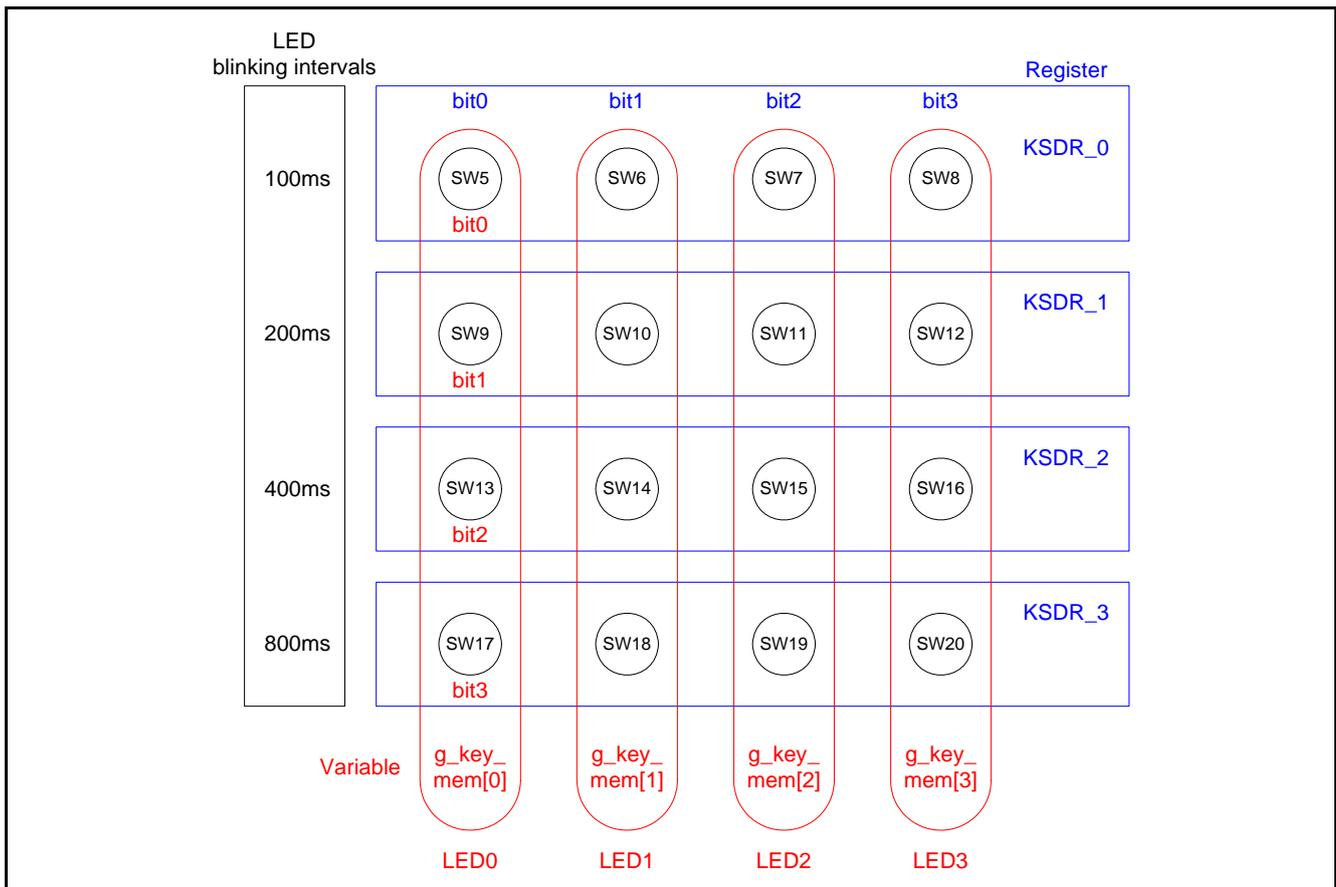

Figure 6.1 Relationship between Key Matrix, Register, LED and Blinking Intervals
- The data read from the register and reversed indicate the keys aligned horizontally (keys in every blue box in Figure 6.1). The data is converted to the vertically aligned data corresponding to the LEDs (keys surrounded by frames in red in Figure 6.1). When there is a bit that is set to 1, the data is assigned to the global variable, *g_key_mem[]*.
Figure 6.1 shows the relationship between key matrix and register, LED and blinking intervals.